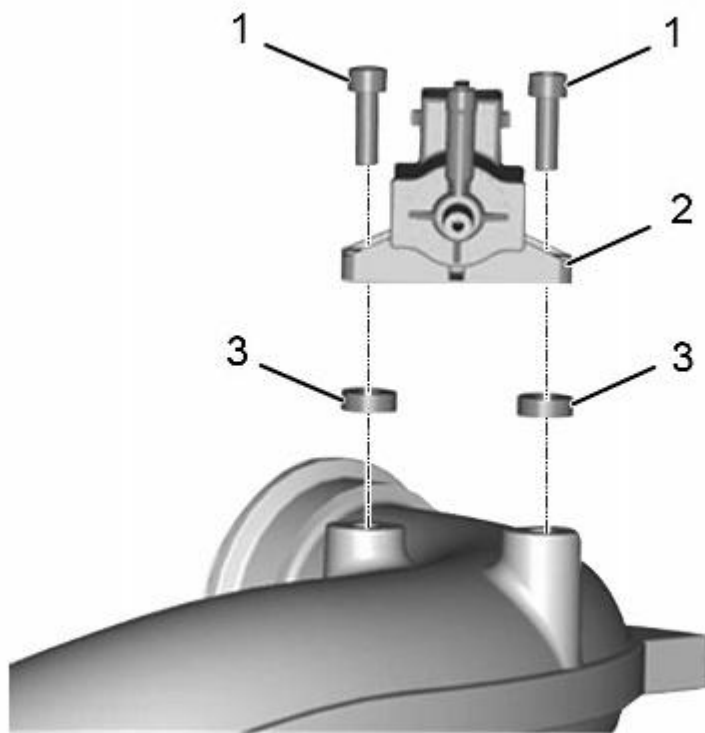

**Figure 3. Turbocharger 2 Wastegate Control (TC2WC) Valve.**
- 1. Bolt (2)
- 3. Insulator (2)
**12. Remove two bolts (Figure 3, Item 1) and insulators (Figure 3, Item 3) from TC2WC valve (Figure 3, Item 2) and position for access to High Pressure (HP) turbocharger.**